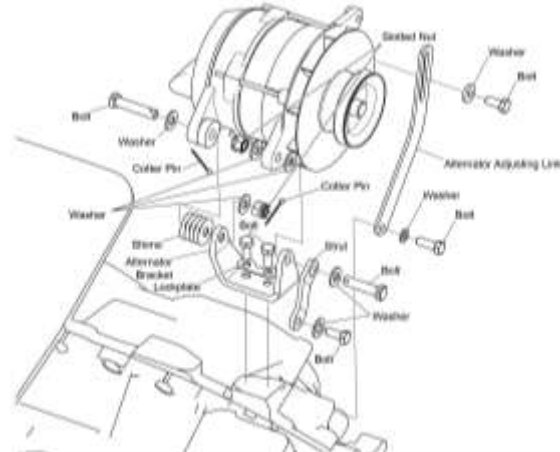

Figure 5
- (2) Loosen the bolt that attaches the alternator adjusting link to the alternator (Figure 5).
- (3) Loosen the bolt that attaches the alternator adjusting link to the crankcase.
- (3) Remove the two bolts and two different washers from the alternator adjusting link (Figure 5).
- (4) Remove the alternator adjusting link.
- (5) Remove the two cotter pins, two bolts, two slotted nuts, shims and three washers from the alternator bracket, strut, and alternator (Figure 5). Discard the cotter pins.
- (6) Remove the alternator and alternator belt.
- (1) Remove the two bolts and lockplate from the alternator bracket (Figure 5). Discard the lockplate.
- (2) Remove the two bolts and washers from the strut and alternator bracket.
- (3) Remove the strut and alternator bracket.
- (1) Mount the alternator bracket on the engine.
- (2) Install a new lockplate with two bolts and washers on the alternator bracket (Figure 5). Torque the bolts to 17 ft.-lb. (23 Nm).
- (3) Bend the tabs of the lockplate against the bolts.
- (4) Attach the strut to the alternator bracket with the two bolts and washers. Torque the bolts in accordance with the latest revision of the *Service Table of Limits SSP - 1776*.
- (1) Mount the alternator on the alternator bracket (Figure 5).
- (2) Install the bolt, two slotted nuts, shims (as many as necessary) and three washers on the alternator bracket and alternator as shown in Figure 5. Install a new cotter pin in each new slotted nut.
- (3) Install the alternator adjusting link with the two bolts and different washers where shown in Figure 5.
- (4) Examine the alternator belt per “Alternator Belt Inspection” in this chapter.
- (5) Install the alternator belt on the alternator per the “Alternator Belt Installation” procedure in this chapter.
- (3) Loosen the bolt that attaches the alternator adjusting link to the crankcase (Figure 5).
- (4) Rotate the alternator on the bracket towards the starter ring gear.
- (3) Adjust the alternator belt tension. Refer to the “Alternator Belt Tension Check/Adjustment” procedure in this chapter.
- (4) Torque the bolts that attach the alternator adjusting link to the alternator and to the crankcase to (Figure 5) to 17 ft.-lb. (23 Nm).